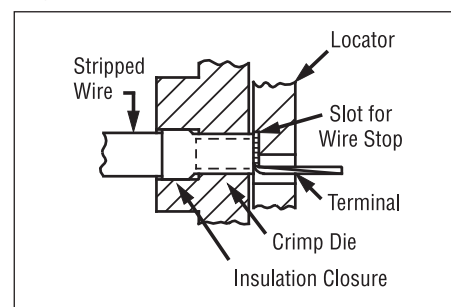
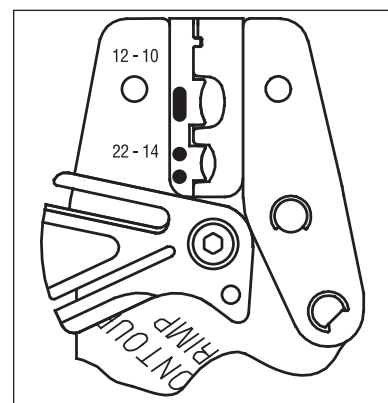
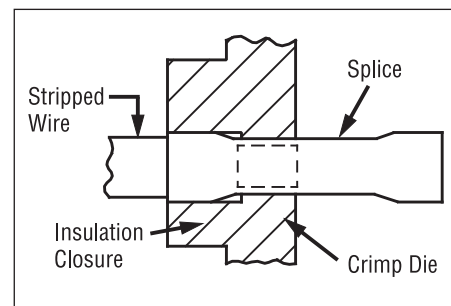

Figure 4
Figure 5
Figure 6
1. With the handles in the **open** position, swing the locator out of the way (See Figure 4). The locator will detent and “lock” in this position. For splices, insert the splice in the proper crimp pocket (See Figure 1) so that the crimp is located on the barrel of the splice (See Figure 5). For fully insulated disconnects, insert the disconnect in the proper crimp pocket (See Figure 1) so that the crimp is located on the barrel of the disconnect (See Figure 6). Refer to product packaging for selection of proper crimp pocket.
2. With the handles in the **open** position, swing the locator out of the way (See Figure 4). The locator will detent and “lock” in this position. Insert the wire joint from the back (locator) side of the crimp tool in the proper crimp pocket (See Figure 1) so that the ribs of the molded insulator (where applicable) are positioned against the crimp die (See Figure 9). Refer to product packaging for selection of proper crimp pocket.
2. Swing the locator out of the way (See Figure 4), and inspect the crimping dies for worn, chipped or broken edges.